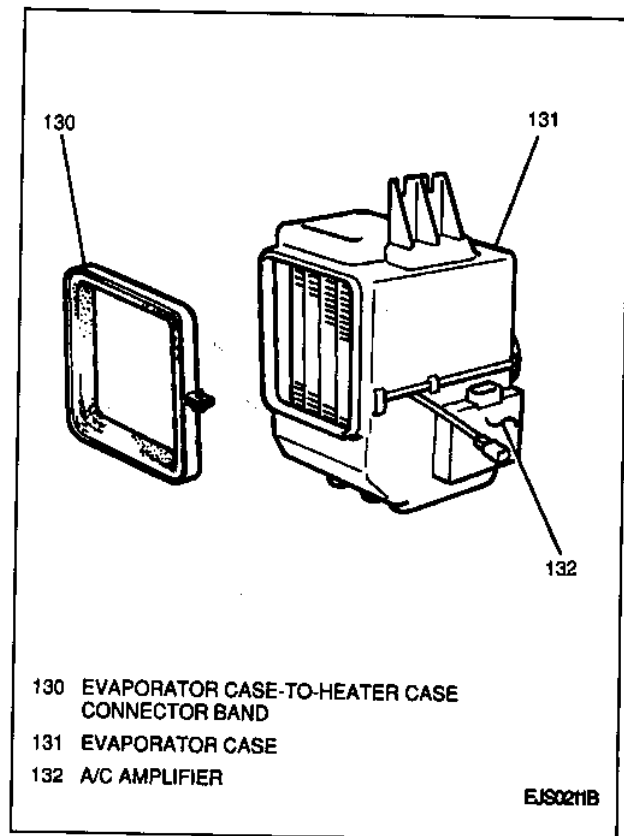

Figure 24—Evaporator Case and Heater Case Connector Band
14. Loosen evaporator-to-heater connector band; slide band on to heater case (Figure 24).